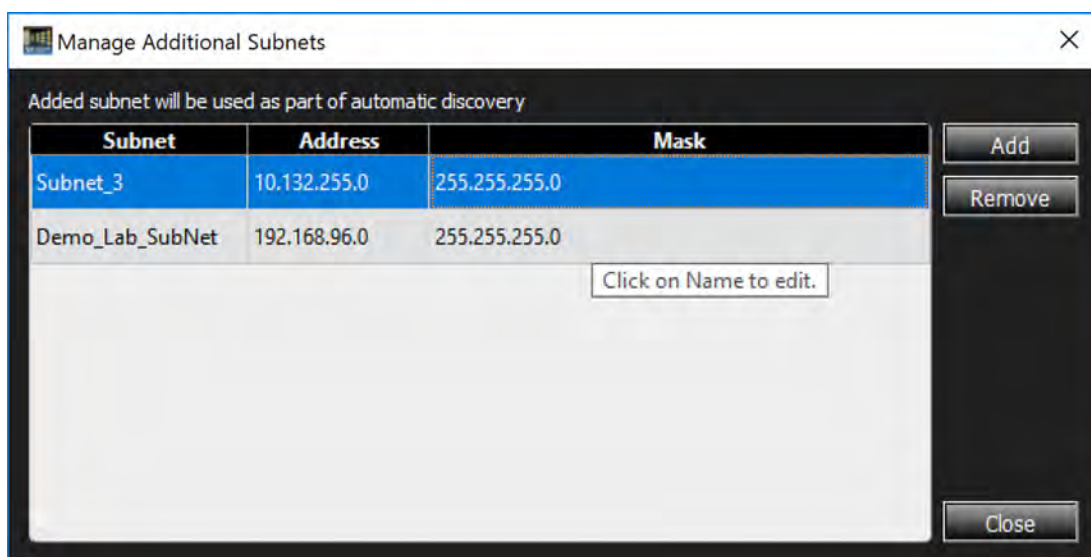

Figure 2.73: New Subnet Added to Network
3. Click **OK** to add the new Subnet to the network (Figure 2.73).